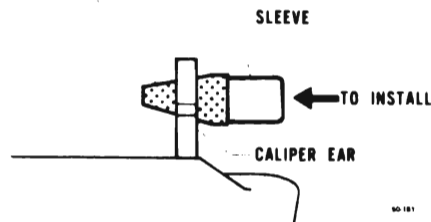

Figure 50-37--Sleeve Installation
2. Use Tool, J-22835, to install the sleeves. See Figure 50-37. Position the sleeves so that the end toward the shoe and lining assemblies is